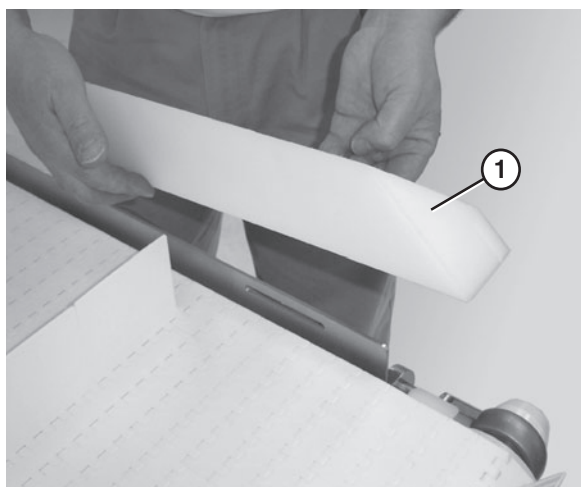

Figure 57
2. Remove the guide (**Figure 57, item 1**).